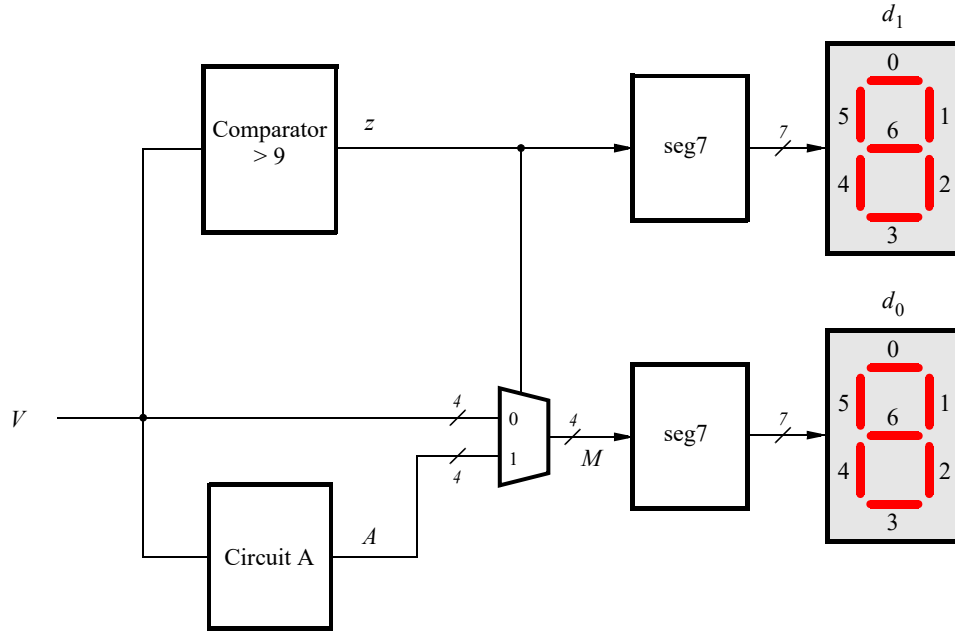

Figure 1: Partial design of the binary-to-decimal conversion circuit.
In advance of the lab exercise you are required to write the Verilog code for Parts I to IV. You should use simulation with ModelSim to verify the correct functionality of your code for each part of the exercise. You are required to show to your TA ModelSim simulations for Parts II and IV (either by having a printout or by running ModelSim on the lab computer). Using simulations will help to ensure that you are able to successfully demonstrate correct circuits in the lab for each part of the exercise. Also, for Part IV you are required to draw a circuit diagram (like the one that is given in Figure 1) and explain to your TA how this circuit works.
You are to design a circuit that converts a four-bit binary number $V = v_3v_2v_1v_0$ into its two-digit decimal equivalent $D = d_1d_0$. Table 1 shows the required output values. A partial design of this circuit, which you need to complete, is given in Figure 1. It includes a module, called a *comparator*, that checks when the value of V is greater than 9, and uses the output of this comparator in the control of the 7-segment displays. The output z for the comparator circuit can be specified using a single Boolean expression, with the four inputs V_{3-0} . Design this Boolean expression by making a truth table that specifies the valuations of the inputs V_{3-0} for which z has to be 1.
Notice that the circuit includes a 4-bit wide 2-to-1 multiplexer (a similar multiplexer was described as part of Laboratory Exercise 1). The purpose of this multiplexer is to drive digit d_0 with the value of V when $z = 0$, and the value of A when $z = 1$. To design circuit A consider the following. For the input values $V \leq 9$, the circuit A does not matter, because the multiplexer in Figure 1 just selects V in these cases. But for the input values $V > 9$, the multiplexer will select A . Thus, A has to provide output values that properly implement Table 1 when $V > 9$. You need to design circuit A so that the input $V = 1010$ gives an output $A = 0000$, the input $V = 1011$ gives the output $A = 0001$, ..., and the input $V = 1111$ gives the output $A = 0101$. Design circuit A by making a truth table with the inputs from V and the outputs A_{3-0} .
1. Write Verilog code for the BCD adder. You must use only simple **assign** statements to specify the required logic functions—do not use other types of Verilog statements such as **if-else** or **case** statements for this part of the exercise. One reasonable approach in designing this circuit is to use a modified version of the solution for Part II. In that part you had to display a four-bit number on the 7-segment displays. In this part you have to make a five-digit number by adding $X + Y$, and display that on the 7-segment displays. The five-bit sums 0 to 15 would already “just work” using the approach from Part II. But for sums 16, 17, 18, and 19 you would not directly display z (see Figure 1) on **HEX1** and M on **HEX0**. Instead, for these sums (which are the sums for which the carry-out of $X + Y$ is 1) you would have to provide different signals for the 7-segment decoders. Alternatively, there is a circuit in the recommended textbook that you could study, understand (so that you can explain it to your TA!), and use.